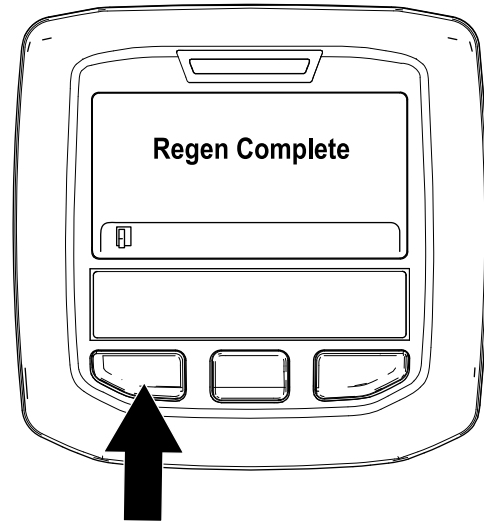

Figure 56
9. The parked regeneration is complete when the "Regen Complete" message displays in the InfoCenter. Press the left button to exit to the home screen (Figure 56).